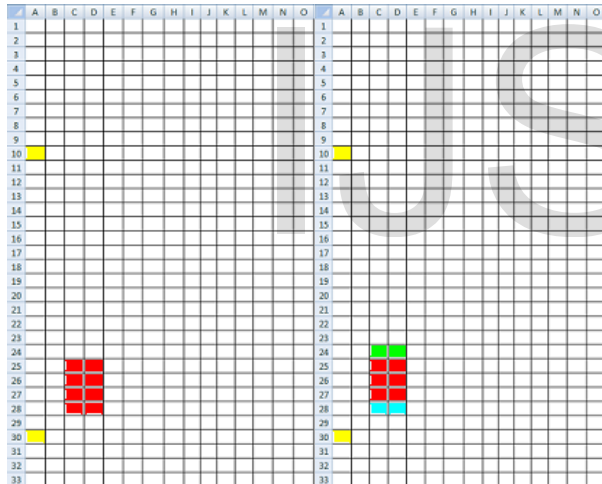

Fig. 3.
2) FIG. 3: Figure shows top view of the MegProp vehicle resting over array of electromagnets (road). Electromagnet boxes are arranged in an array. Box with no color represents an inactive electromagnet. The vehicle body is not shown. Only the area, which the vehicle will occupy, is shown in red color. The boxes with red color represent electromagnets which are active. The figure at present shows only section of road which can be extended to any length. For giving reference number to electromagnets, the column are marked as A,B,C etc and rows are marked as 1,2,3 etc. So B1 marks electromagnet in 2nd column and 1st row and so on. The column A here don't have any electromagnets but only BC2's (Box Controls), spaced 20 rows apart. Poles are being shown in figure with yellow colors. These BC2 takes instruction from central computing system and then gives instructions about which set of electromagnets to activate in the road. If CCS(Central Computing System) decides to move forward. The instruction of the CCS will be sent to BC2 which will in turn activate the magnets in front of vehicle and the ones
at the rear will be deactivated which will move the vehicle forward. In figure 3 vehicle is stationary (the vehicle is standing over area in color red) with electromagnet set (C25, D25, C26, D26, C27, D27, C28, D28) just below the vehicle marked in red color being active. Means electricity is flowing to them only and rest of electromagnets are not supplied with electricity.